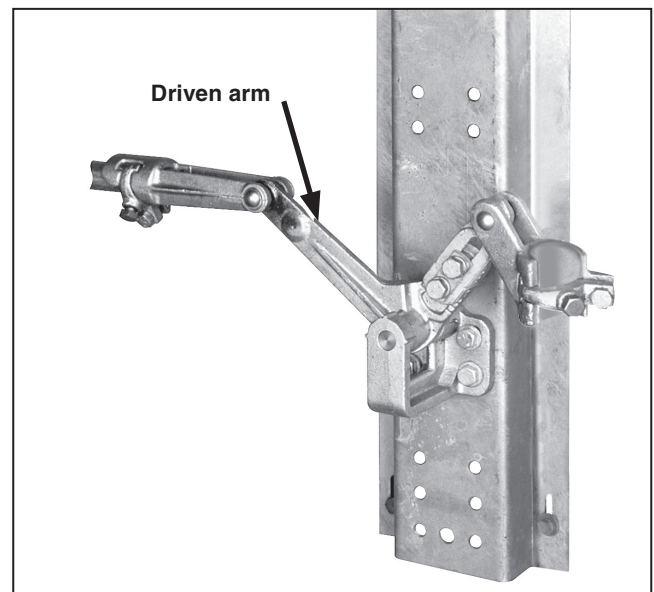

Figure 12. Pipe connecting bell-crank.
STEP 10. *If the bell-crank is mounted outboard of the switch poles:* Install the pipe section connecting the driven arm of the bell-crank to the nearest switch pole. See Figure 12. (If two bell-cranks are used in a double-offset arrangement, install the connecting pipe between them.) Follow the directions in “Installing Pipe Couplings with Piercing Set Screws” on page 12.